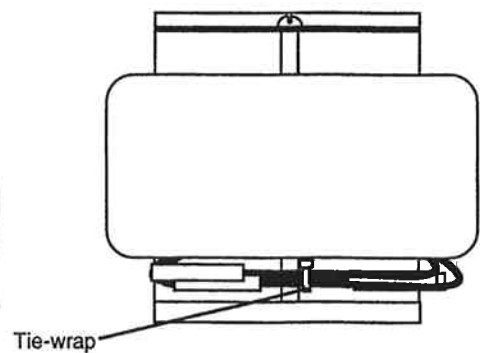

Figure 3B Modified Power Transformer with Wires Tied
6. Neatly tie the 4 crimped wires together - Fig. 3B.